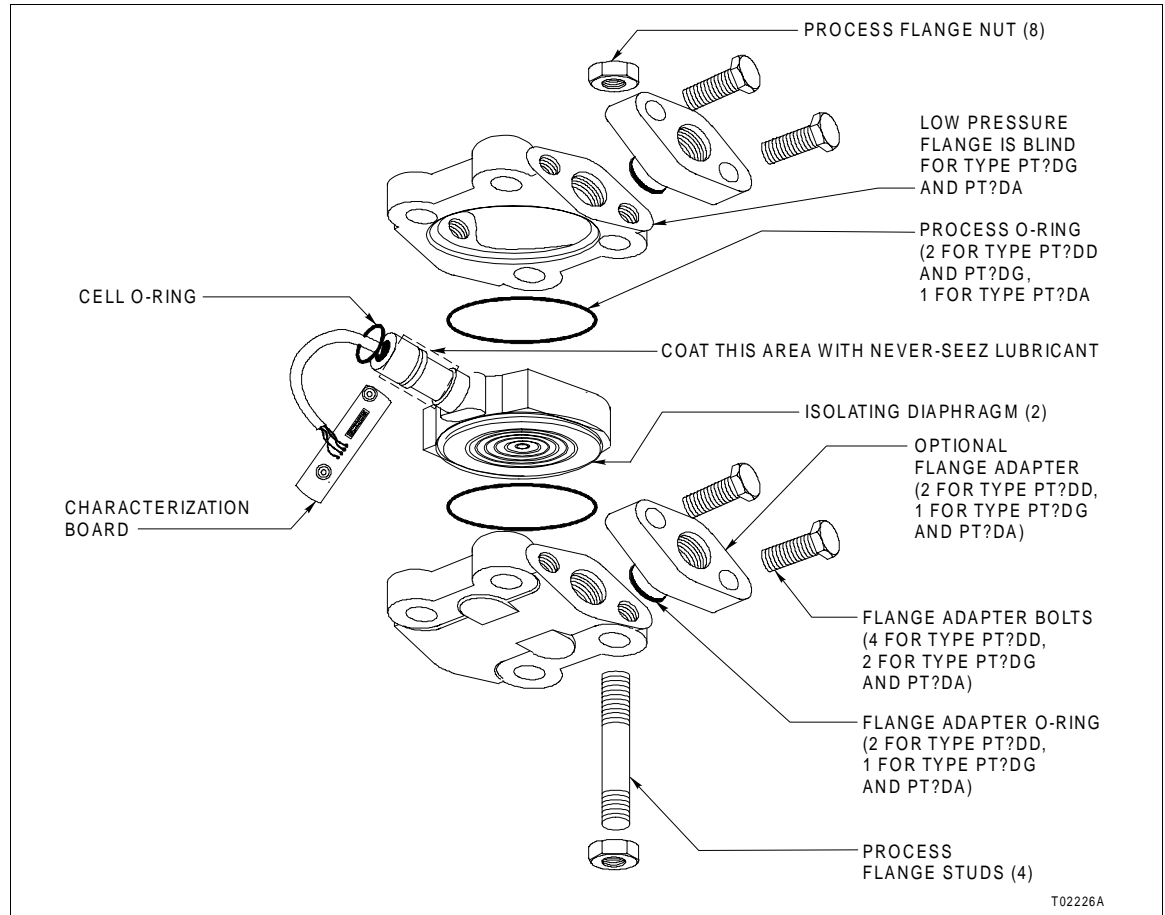

Figure 8-2. Exploded View of Cell for Type PTSDD Pressure Transmitter
9. Use the adjustable end wrench to remove all four of the process flange nuts on either side of the process flange (Fig. 8-2).
10. Separate the flanges from the cell, taking care not to damage the isolating diaphragms (Fig. 8-2).
11. Remove the cell, process, and cover O-rings (Figs. 8-2 and 8-3).
3. Mount the process flanges in the proper position and insert the process flange studs until the process flange nuts already installed come in contact with the process flange (Fig. 8-2).
7. Coat the cylindrical part of the cell with a light coating of the DRI-GLIDE sealant (Fig. 8-2).
8. Refer to **Section 9** and determine the proper cell O-ring (Fig. 8-2).
2. Using the adjustable end wrench, remove four of the process flange nuts from either side of the process flange (Fig. 8-2).
3. Remove the process flange studs (Fig. 8-2).
1. Refer to **Section 9** and determine the proper process O-rings (Fig. 8-2) for the application.
2. Using the adjustable end wrench, remove the flange adapters, vent/drain plugs, and pipe plugs from the process flanges (if supplied, refer to Figs. 8-2 and 8-3).
3. Using the adjustable end wrench, remove four of the process flange nuts from either side of the process flange (Fig. 8-2).
4. Remove the process flange studs (Fig. 8-2).
5. Separate the flanges from the cell, being careful not to damage the isolating diaphragms (Fig. 8-2).